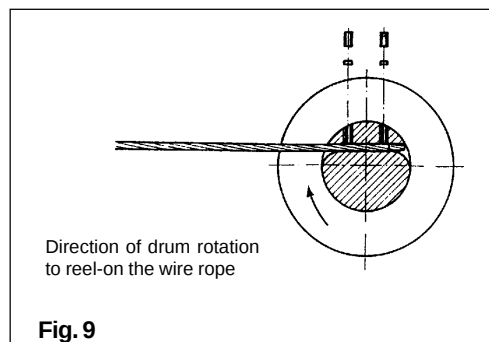

Fig. 9
- The rope must be fitted so that it will not kink when unreeled (see Fig. 9).